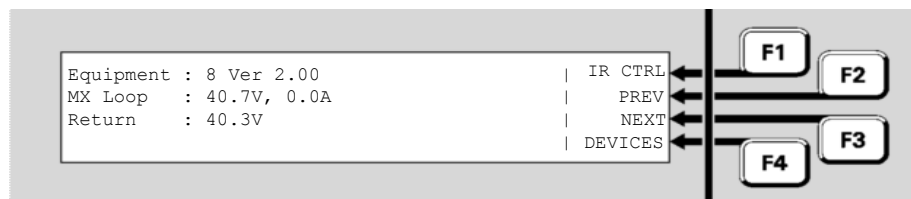
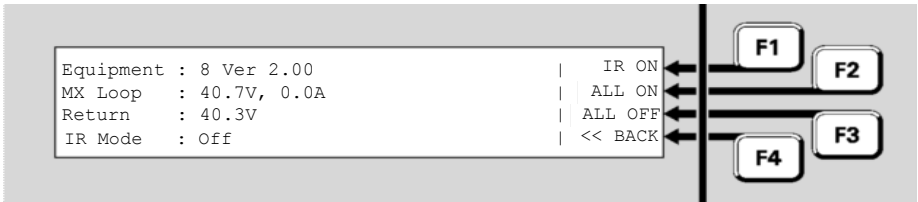

Fig 8-5 – MX Loop Status
Fig 8-6a – MX Loop IR
Fig 8.5 shows a typical situation. The power feed is applied to the start of the loop, which is drawing only a light load current. The voltage at the end of the loop is being monitored to detect any breaks in the wiring.
Before you can communicate with a detector using IR the loop the detector is connected to must be put into IR mode. Select the required MX loop (see Figure 8-5) and then press **IR** **CTRL**←**F1**. This will show the IR controls – see Figure 8-6a.
- Pressing << **BACK**←**F4** will return to the previous display (Figure 8-5).